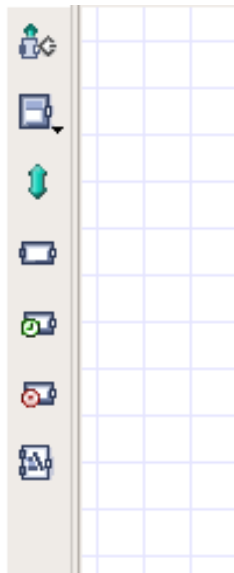

Figure 5: Hardware Toolbar Window
3. Add each item of the Virtual Processing Unit (VPU), Memory Generic, System Bus, Clock Generator, and Reset Generator to the hardware design. These items can be added from the toolbar (Figure 5 on the left side of the Hardware Window Area).